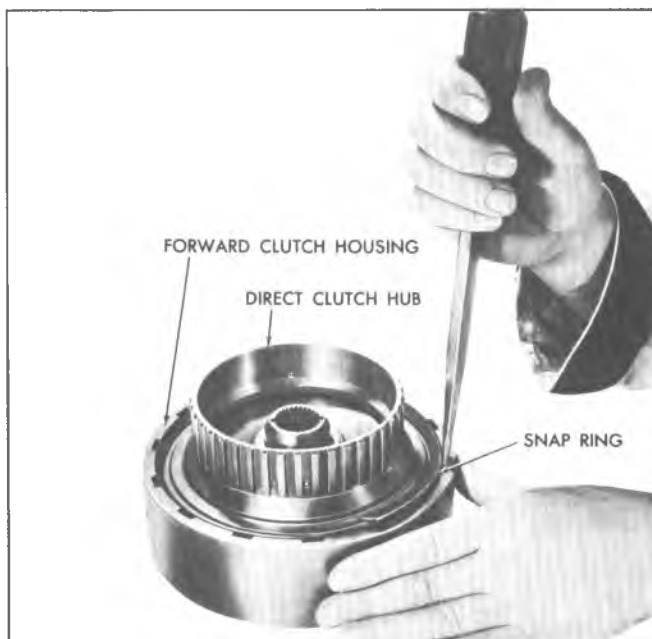

Fig. 67T--Removing Forward Clutch Housing to Direct Clutch Hub Snap Ring
1. Place forward clutch assembly with turbine shaft through hole in bench or Holding Fixture J-6116, and remove forward clutch housing to direct clutch hub snap ring (fig. 67T).